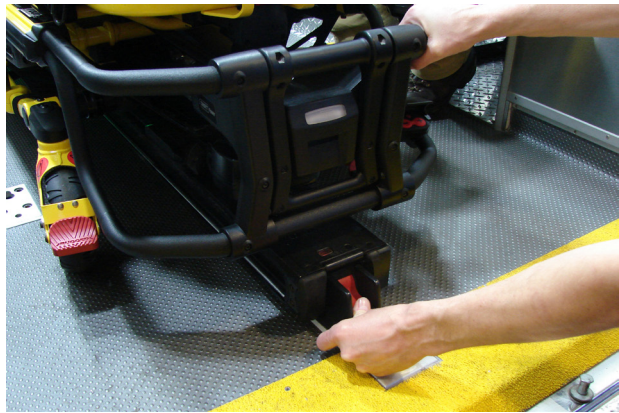

Figure 54
- Loading and/or unloading an occupied cot into a vehicle requires a minimum of two (2) trained operators.
2. Press and hold the release lever at the foot end of the Power-LOAD system and pull to remove the cot from the vehicle patient compartment as shown in Figure 54.